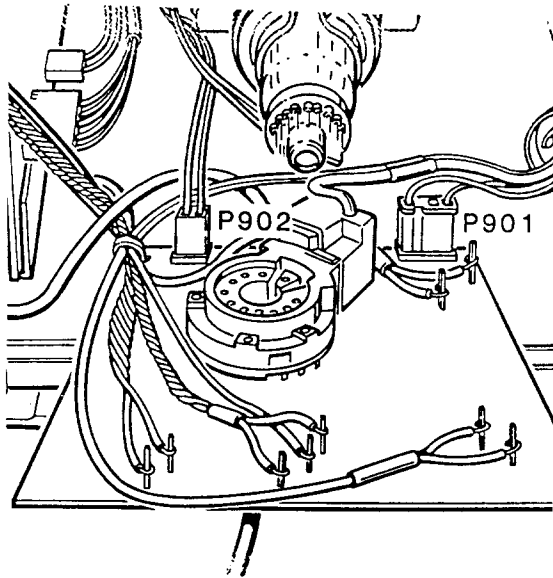

Figure 3-7. Disconnecting P901 and P902
7. Disconnect cable connectors P901 (3-pin, 2-wire) and P902 (2-pin, 2-wire) from the CRT drive board, as shown in Figure 3-7.